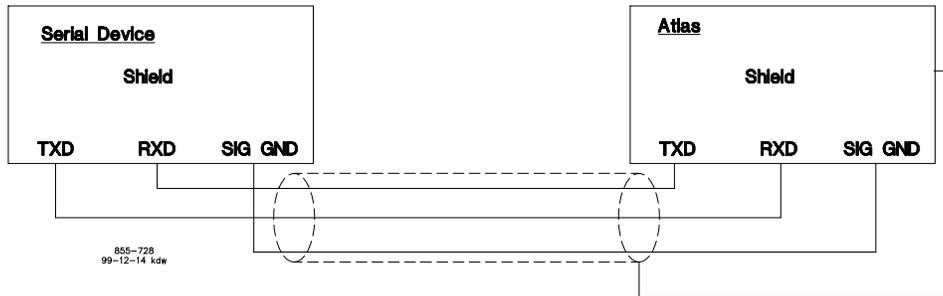

Figure 4-10. RS-232 Interface to the SmartCore Board (wiring example)
- Refer to Figure 4-10 for RS-232 wiring. The transmit data (TXD), receive data (RXD), and signal ground (SIG GND) must be properly connected as shown. In addition the shield (SHLD) should be connected in at least one location.